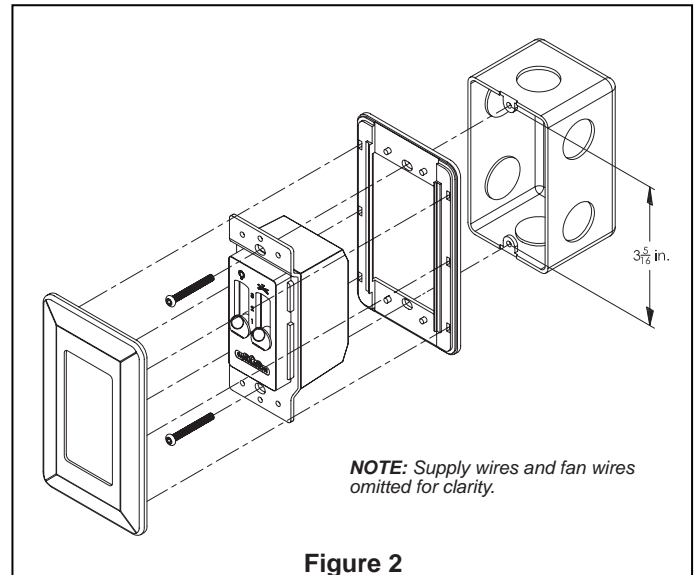

Figure 2
3. Loosen the two setscrews in the Downrod Support. Align the Clevis Pin holes in the Downrod with the holes in the Downrod Support. Install the Clevis Pin and secure with the Hairpin Clip. (Figure 2) Be sure to push the straight leg of the hairpin clip through the hole near the end of the clevis pin until the curved portion of the hairpin clip snaps around the clevis pin. The hairpin clip must be properly installed to prevent the clevis pin from working loose. Pull on the Downrod to make sure the clevis pin is properly installed.
1. Using the  $\frac{3}{8}$ " x 2" lag bolt and flat washer, attach safety cable to ceiling joist or wood structural member. The lag bolt will pass through the flat washer, safety cable loop, and into the building structure (Figure 2). You will first drill a  $\frac{1}{4}$ " pilot hole into the building structure to prevent splitting or cracking.
**NOTE:** Ceiling support cable cannot be secured to junction box only, it must be directly secured to ceiling joist or structural member using the  $\frac{3}{8}$ " x 2" lag bolt and flat washer. (Figure 2)
4. With a Phillips screwdriver, tighten pan-head screws with fiber washers and flat washers to secure the blade. (Figure 2)